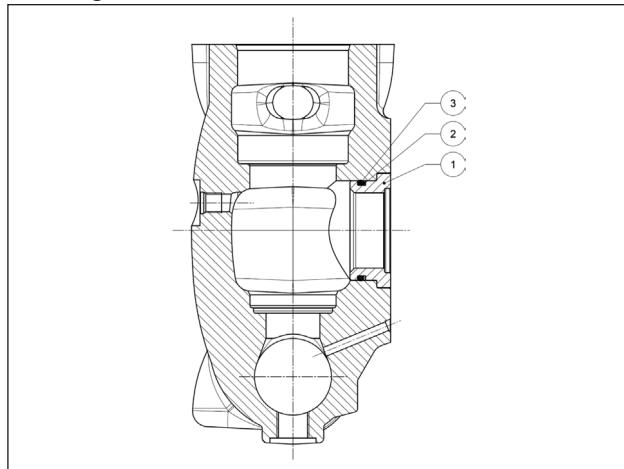
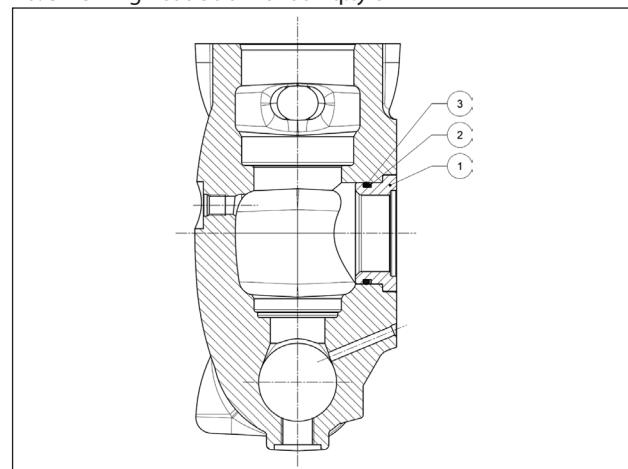

Fig. 167
Fig. 168
The machined head must be assembled by driving in the bushes (pos. ①) together with the anti-extrusion rings (pos. ②) and the O-ring (pos. ③) as shown in Fig. 167 for LK36-40-45 and in Fig. 168 for LK50-55-60: